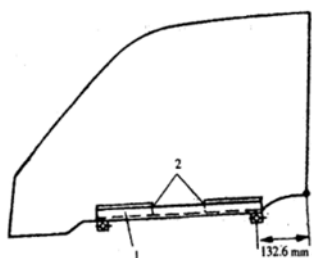

Fig. 4.1-8
2) When assembling glass on glass bearer rubber gibs, daub soap water on glass bearer rubber gibs, and use rubber hammer to rivet slightly glass. The position of glass fixed on glass bearer sees Fig. 4.1-8.